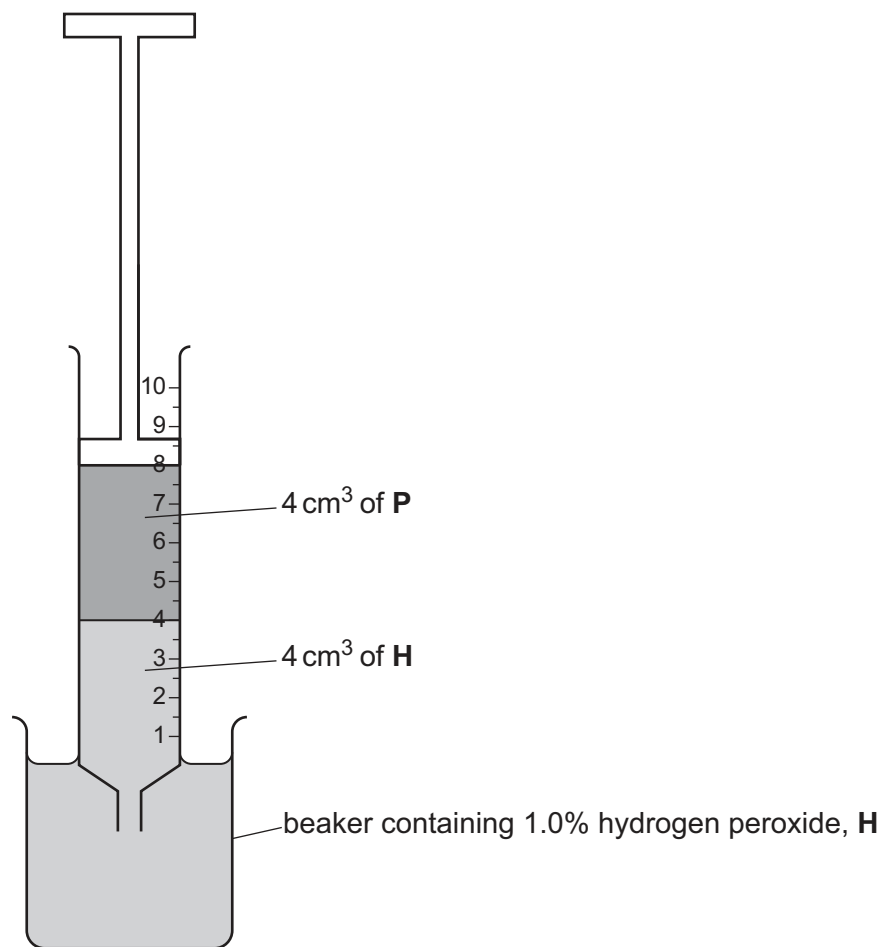

Figure 1.3
step 10 Pull the plunger out to the 8 cm^3 mark so that 4 cm^3 of **H** enters the syringe, as shown in Figure 1.3.